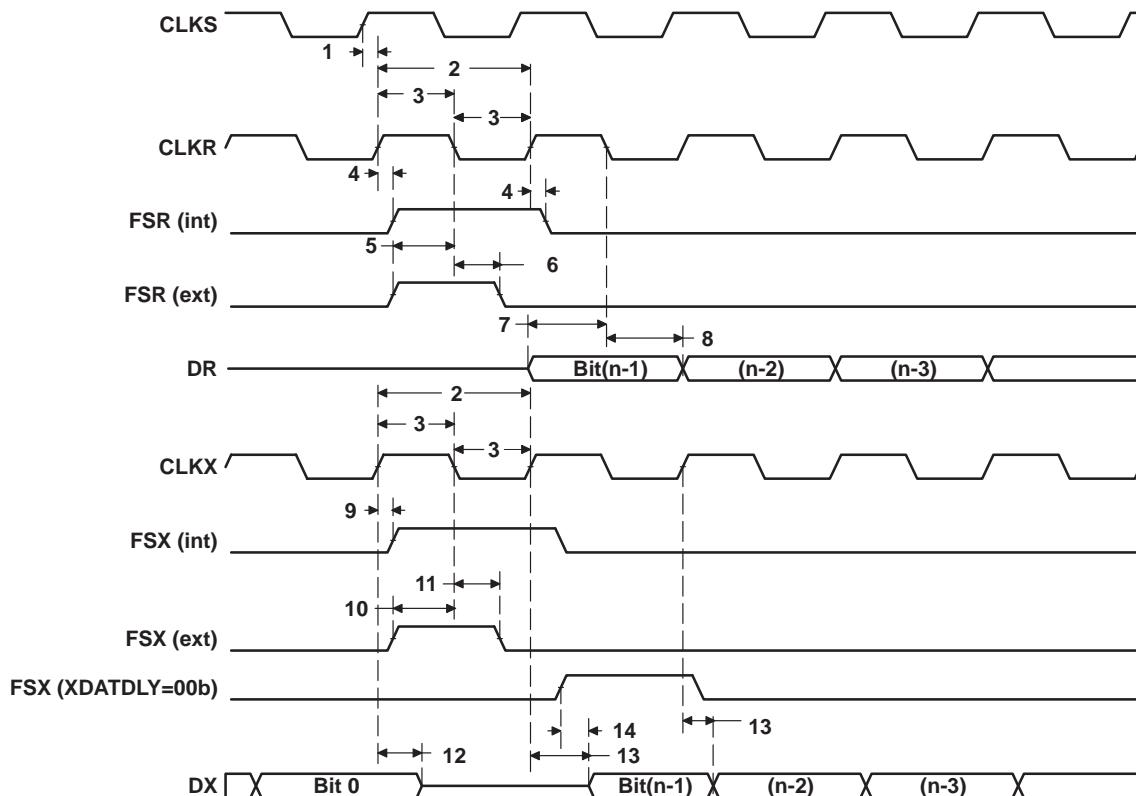

Figure 31. McBSP Timings
**timing requirements for McBSP†† (see Figure 31)**
#### switching characteristics for McBSP†‡§ (see Figure 31)